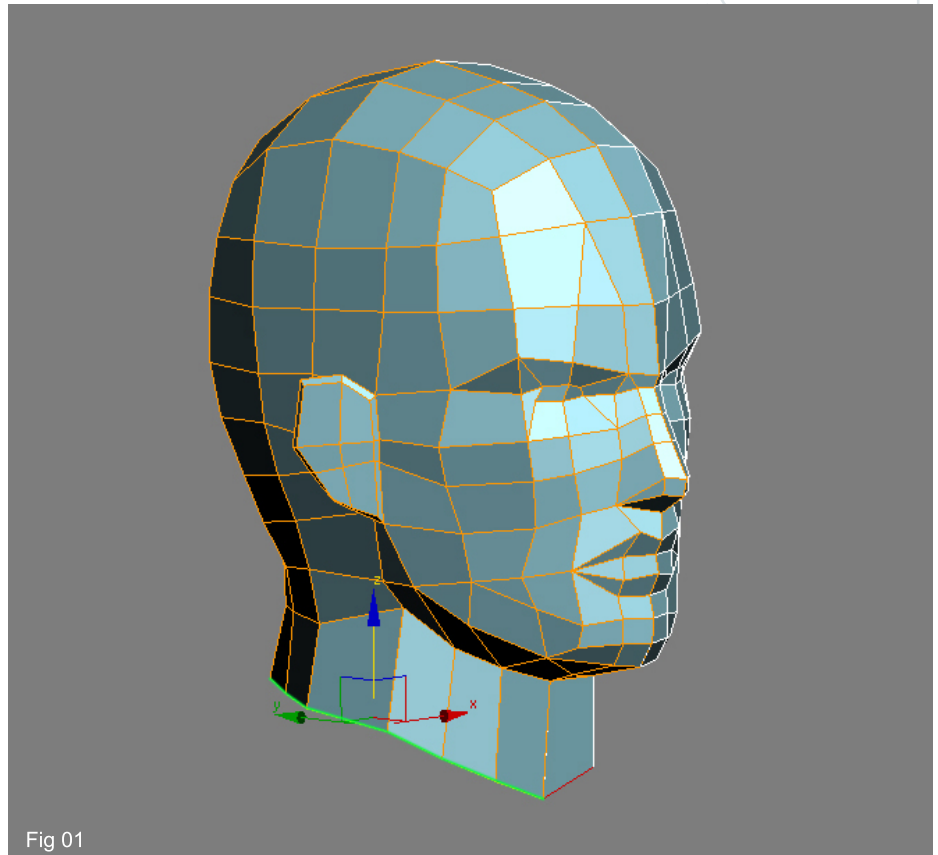

Fig 01
1. If you have followed the previous tutorial on making the head then open that file and begin by selecting the bottom row of edges as shown in green in Fig01. Now hold down the "Shift" key and using the "Move" tool drag this row of edges downwards to make a copy. Remember that we still have the "Symmetry" modifier on top of the stack and so are only working on the left half of the mesh.